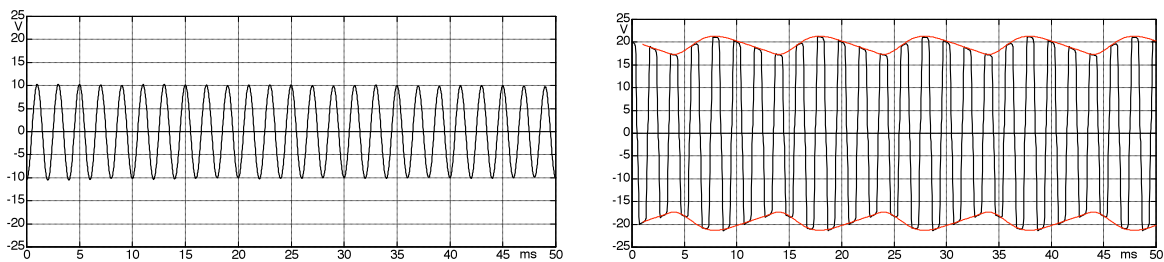
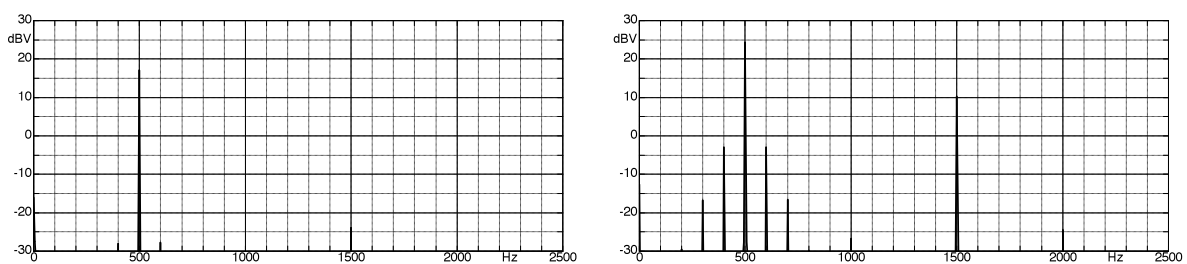

Fig. 10.5.48: Voltage at the 8- Ω -output for an 8- Ω -load. Drive level: half (left), overdriven (right).
Abb. 10.5.49: Level-spectra related to Fig. 10.5.48.
Abb. 10.5.48 depicts the time-function of the output voltage, with the 8- Ω -output loaded with a purely ohmic 8- Ω -load. As long as the output voltage is not limited, any fluctuations in the supply voltage represent a (superimposed) common-mode interference that is largely suppressed by the output transformer – the output voltage of the transformer remains unmodulated (left hand section of the figure). In overdrive-operation, however, an asymmetric limiting appears: the maximum plate-current depends on the supply voltage while the minimum plate-current does not (it is practically zero). As a result, an envelope depending on double the mains-frequency is generated – it may be seen, as a first approximation, as a 100-Hz-amplitude-modulation (AM). It is not that a 100-Hz-tone is superimposed onto the input signal; rather, the latter is changed (modulated) in its amplitude. The **envelope** over time (which does not actually exist but is an imaginary auxiliary line) is shown dashed in the right-hand section of the figure.
Spectrally seen, this 100-Hz-modulation does not make itself felt as a line at 100 Hz. Rather, modulation-lines *next* to the signal-lines result. As a model, the AM can be illustrated as the multiplication ‘signal x envelope’, corresponding to a convolution in the frequency domain. Since the envelope is not of an exact sine-shape (Chapter 10.7), we not only get a single pair of additional lines (± 100 Hz), but several pairs. The level-spectra related to Fig. 10.5.48 are shown in **Fig.10.5.49**: in the left-hand picture, the modulation lines (lateral lines) have a level of 45 dB below the carrier – the (3rd-order) distortion (at 1.5 kHz) is 1%. For the overdrive operation chosen in the right-hand section of the picture, the 3rd-order distortion amounts to 20% with the level-distance between the modulation lines having decreased to 27 dB.